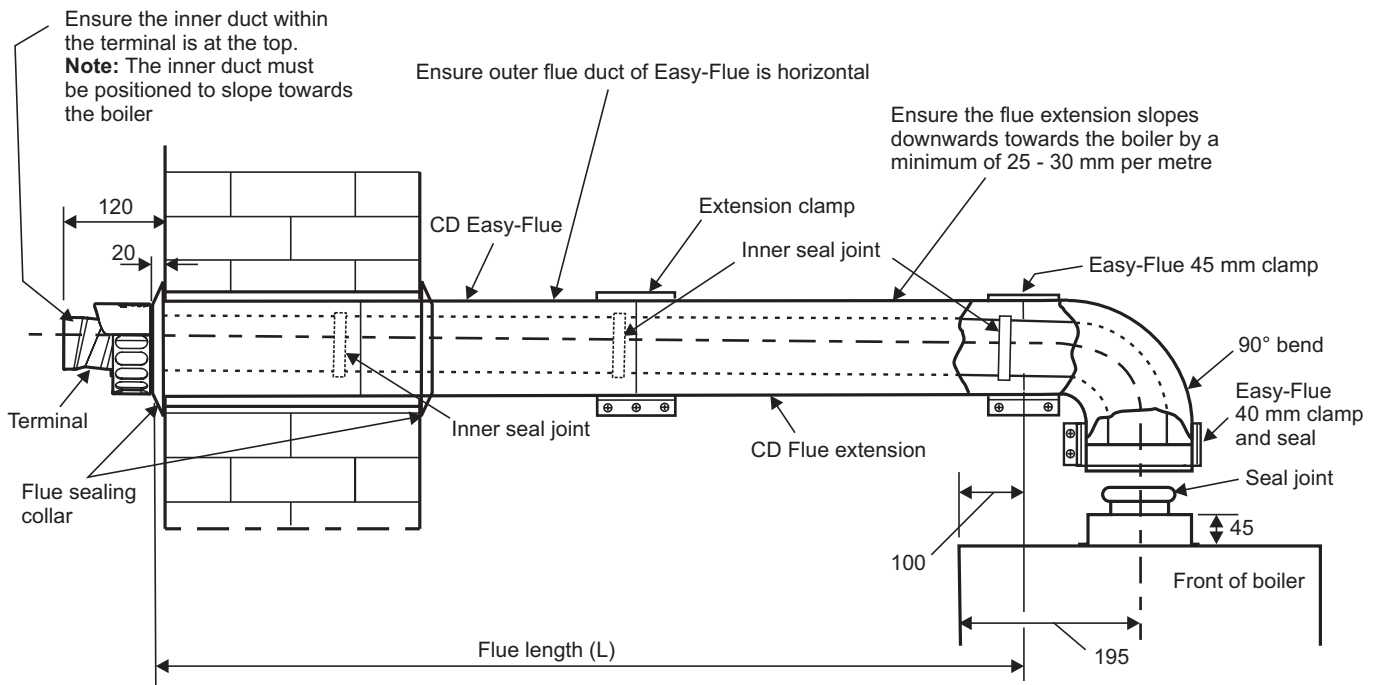

Fig. 4.10 - Side flue
4.7 EXTENDING THE FLUE - Fig. 4.10
Note: Check the flue terminal protrudes 100 mm out of the wall and that the inner duct of the terminal is positioned correctly, i.e. the inner duct within the terminal is at the top. See Fig. 4.10.